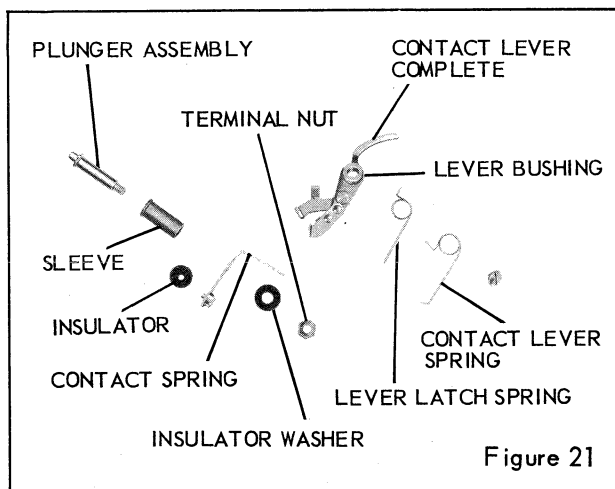

Figure 21
3. Trigger latch, with the long bent end of the latch contacting the inner edge of the CONTACT LEVER COMPLETE, figure 21. Be sure the latch does not bind.
4. TERMINAL NUT, figure 21, using Tool No. 503J.
place the contact LEVER LATCH SPRING, figure 21, on the contact LEVER BUSHING, with the long end of the spring at the bottom. Lift the long end of the spring and rest it against the outside edge of the spring lug on the contact lever latch. Form the short end of the spring around the vertical part of the contact lever tail; then place the CONTACT LEVER SPRING on the contact lever bushing. Bend the 1/8 inch of the long end of the spring clockwise at least 15 degrees.
1. Place the contact LEVER LATCH SPRING, figure 21, on the contact LEVER BUSHING, with the long end of the spring at the bottom. Lift the long end of the spring and rest it against the outside edge of the spring lug on the contact lever latch. Form the short end of the spring around the vertical part of the contact lever tail; then place the CONTACT LEVER SPRING on the contact lever bushing. Bend the last 1/8 inch of the long end of the contact lever spring clockwise at least 15 degrees.